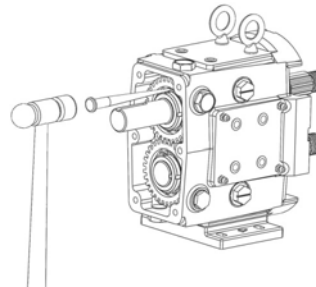

**Figure 52: Installing Lock Washer and Lock Nut**
9) Install the lock washers on the shaft by aligning the tab inside the lock washer with the slot in the shaft (Figure 52, A). Lubricate the threads of the lock nuts and thread them on the shafts. Using a spanner wrench, tighten them to the specified torque in Table 6. Use a wedge (wood or plastic) between the gear teeth to keep the shafts from turning while tightening the lock nuts (Figure 52, B).